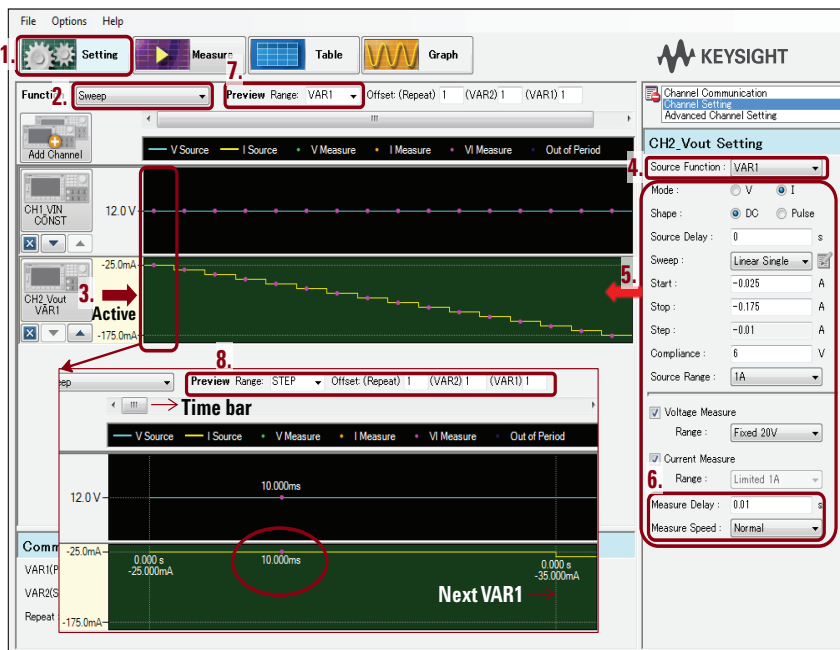

Figure 3. Load regulation test setup.
Switching mode DC-to-DC converter converts the input DC voltage to a stable DC output voltage and keeps the output stable. The load regulation test measures the output voltage variation when the output current load is varying. The following procedures show how to set up the load regulation test. Each step corresponds to each number shown in Figure 3.
8. Once set to STEP, the graph expands for one step of the VAR1 period in the horizontal axis, as shown in the enlarged preview graph in Figure 3. In this image you can see that the measurement starts at a point 10 ms (0.01 sec) after the VAR1 is set. The measurement is made for one power line cycle period after this point, which is 20 ms for the 50 Hz line frequency and 16.6 ms for 60 Hz. Then VAR1 is stepped to the next value.